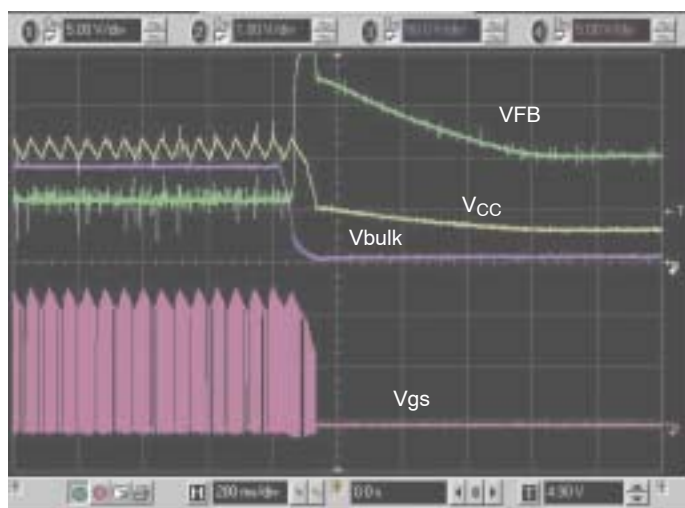

Figure 25. The Diode Addition Forces a Clean Turn-off Sequence both Negative Biasing and Gate High State Troubles
Once implemented, please make sure that your operating waveforms match those of Figure 25. That is to say, a bulk level depleting the V_{CC} capacitor at turn-off. To summarize:
3. Check that final waveforms match Figure 25 signals